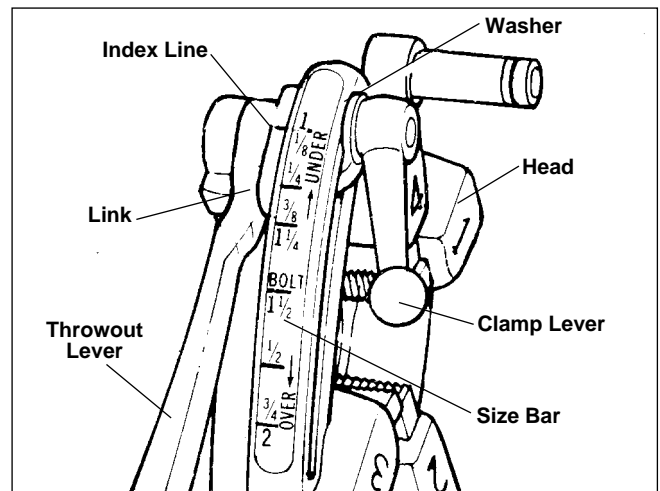

Figure 12 – Universal Quick-Opening Die Head
5. Quick-Opening 811A Die Head (*Figure 12*) – Rotate throwout lever to the CLOSED position.
10. Quick-Opening 811A Die Head (*Figure 12*) – When thread is completed, raise throwout lever to open position, retracting dies.
NOTE! The No. 811A Universal Die Head (Figure 12) for right hand threads requires four sets of dies to thread pipe ranging from 1/8" through 2". One set of dies is required for each of the following pipe